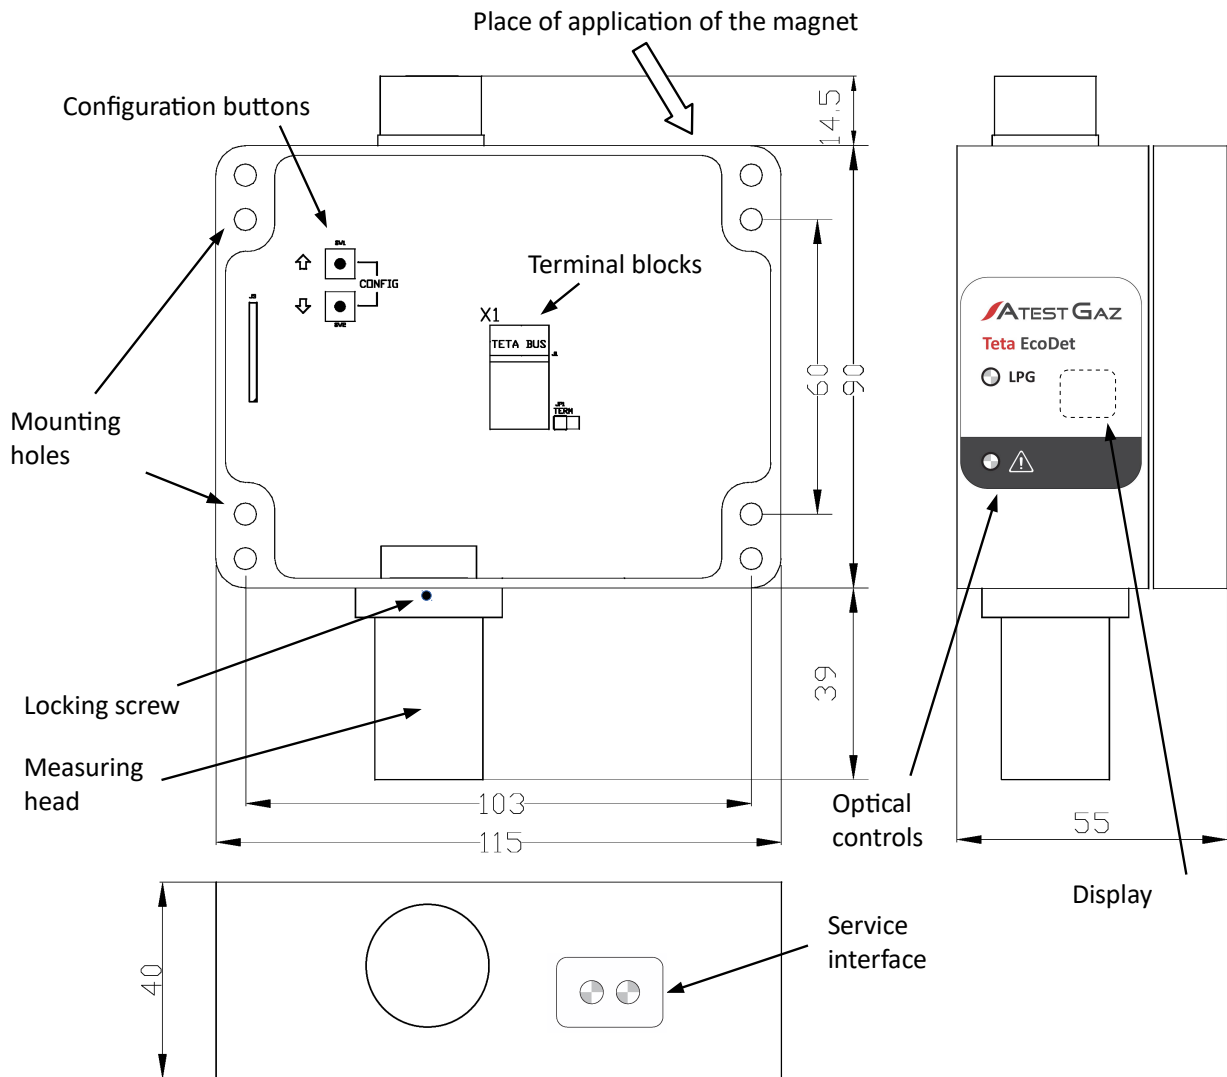

Figure 1: The construction of the device and its dimensions
Gas detectors are crucial components of any system for gas detection. They are designed for periodical measurements of gas concentration in ambient air. Information that the settings for concentration thresholds are exceeded is shown by means of dedicated light indicators (LEDs) provided on the side wall of the detector housing (see Fig. 1) and transmitted via a digital output line.
Locations and arrangement of terminal blocks is shown on Figure 1.
Gas detectors are provided with two LED indicators to show status of the device. These LEDs are located on the side wall of the device housing (see Figures 1 and 2).
The side wall of the device housing comprises also a display module (see Figure 1). The display panel is designed to show information that is explained in subsequent sections.
The detector address can be displayed with no need to open the device housing, it is just enough to approach a permanent magnet to a specific location on the housing (this location is shown in Figure 1).
- Detectors must be fixed by means of mounting holes that are visible after opening of the housing. Make sure that the gas inlet looks downwards. Dimensions of the housing, arrangement of mounting holes and layout of internal components is shown in Figure 1. Drilling of mounting holes in walls or other permanent structures is easier with use of a drilling pattern attached to the device package.